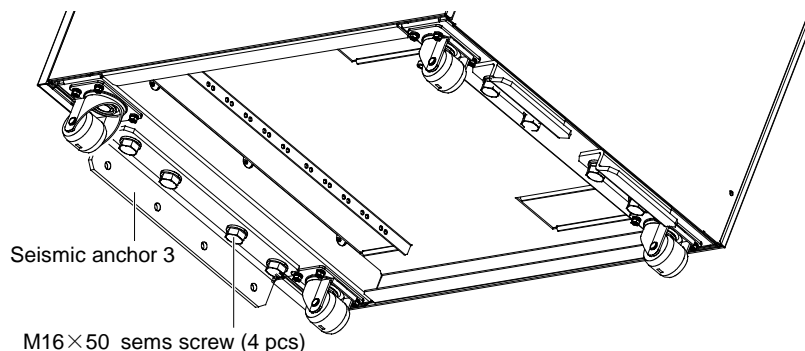

Figure 8-11 Installing seismic anchor 3
3. Use four M16 × 50 sems screws to install seismic anchor 3 on the front bottom of the UPS cabinet, as shown in Figure 8-11; then carefully place the UPS cabinet on the ground.